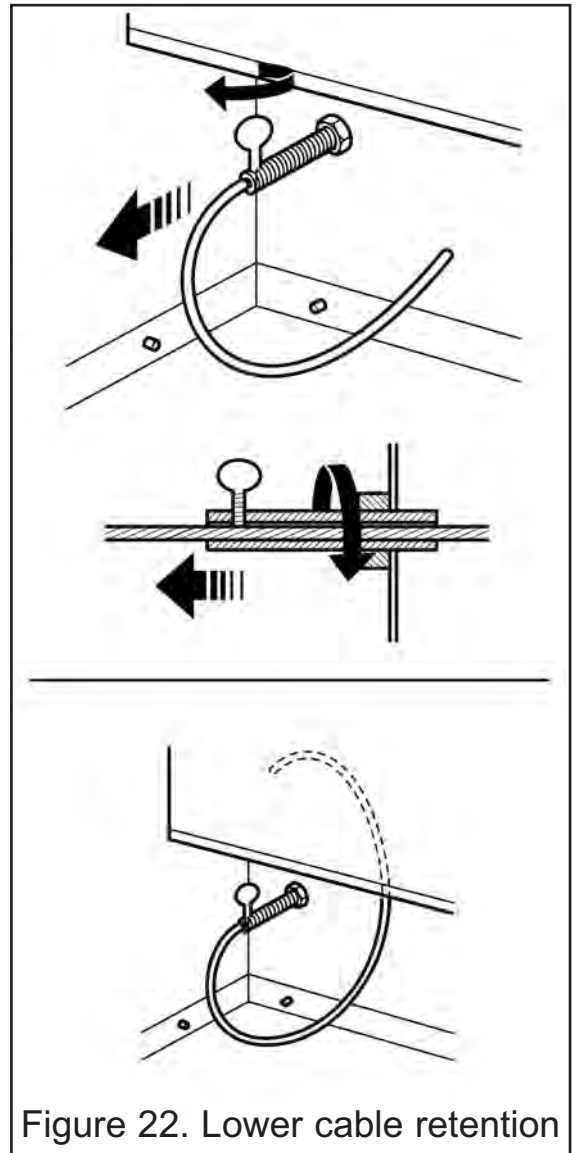

Figure 22. Lower cable retention
11. Pull each cable taut. Push the cable retainers hard up against the back panel. The end of the cable adjuster will pass into the hole. Tighten the screws in the retainers so that they clamp the cables in position. Apply tension to the cables by turning the hexagonal adjusters by hand (See figure 22).
14. Feed the free length of the cables into the gap between the inner and outer back panels so that they are available to allow easy removal and refitting of the appliance during subsequent service calls. **Do not cut off the free lengths of cable** (See figure 22).